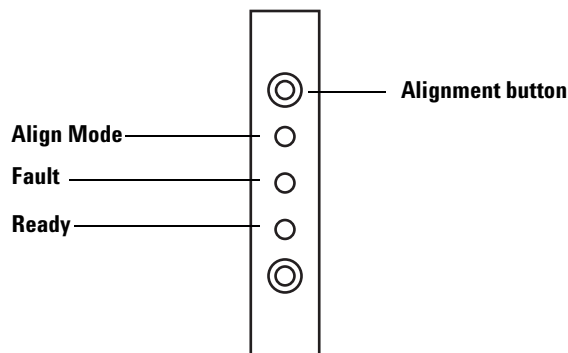

Figure 77 Aligning the injector
- 4 Use a long, narrow object to press the recessed Alignment button above the indicator lights. Avoid contact with anything behind or around the button inside the recessed hole (Figure 77).